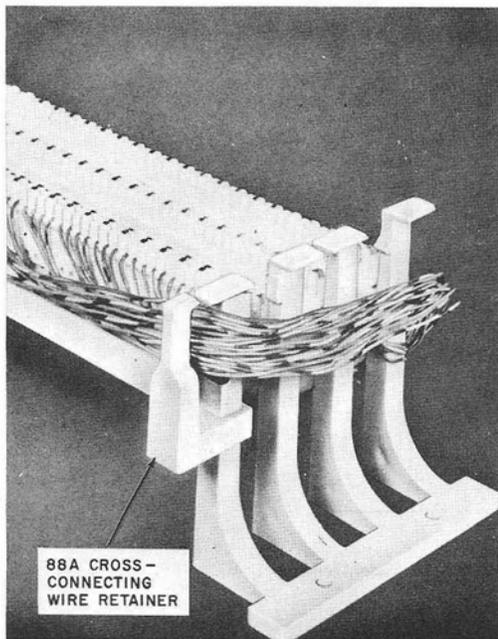

Fig. 5—88A1 Retainer
- (e) **88A retainer** (Fig. 5) is a small molded plastic part that attaches to the leg of the 88-type wiring block to complete its fanning strip. It is used to retain the cross-connecting wires at the top or bottom of a column of the 88-type wiring blocks.